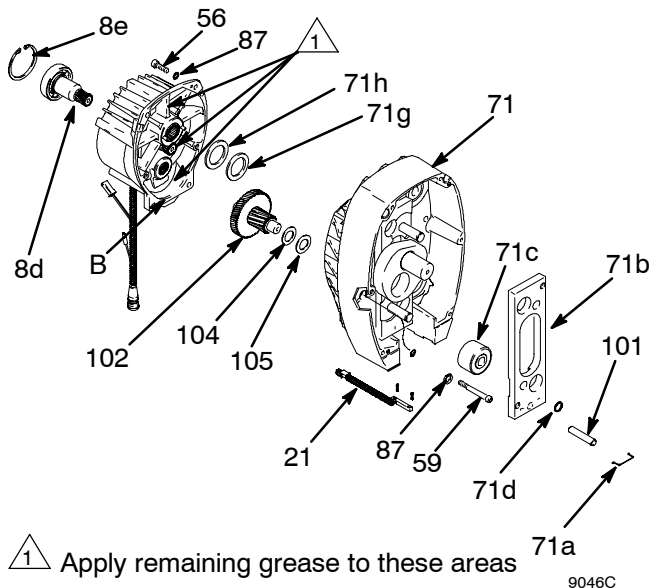

Fig. 3
- Fig. 3. Remove two screws (59) and washers (87).
- Remove four cap screws (56) lock washers (87) from drive housing (71).
- Lightly tap around drive housing (71) to loosen drive housing. Pull drive housing straight off pinion housing. Be prepared to support gear cluster (102), which may also come out.